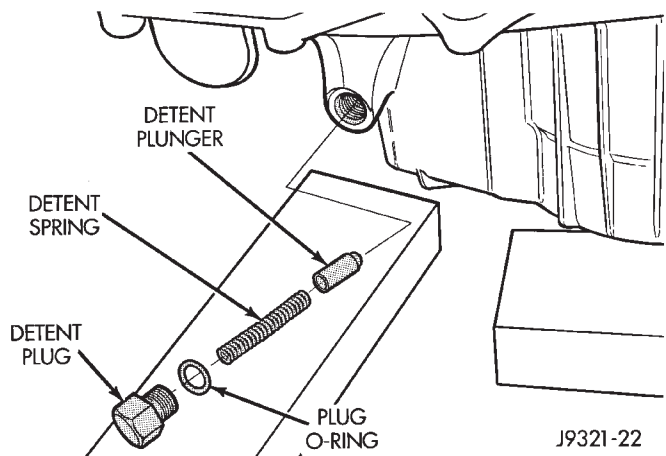

Fig. 27 Detent Plug, Spring And Plunger Removal
- (1) Remove detent plug, O-ring, detent spring and detent plunger (Fig. 27).
- (2) Remove shift rail from shift fork and transfer case housing.
- (3) Rotate range shift fork until it disengages from shift sector.
- (4) Remove mainshaft and shift fork from input gear pilot bearing.